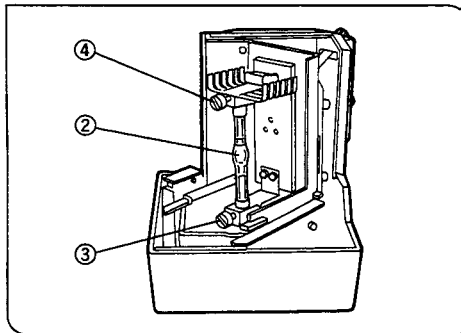

Fig. 10
3. Loosen the burner clamping screws ③ and ④ (Fig. 10) and remove the securing post. (For burner replacement, remove the used burner.)
4. With the + pole of the mercury burner ② facing downward, insert the pole into the opening and tighten the burner clamping screw ③. Then loosen the burner clamping screw ④. Insert the pole (marked UP) of the burner into the opening and tighten the burner clamping screw ④. (Fig. 10)